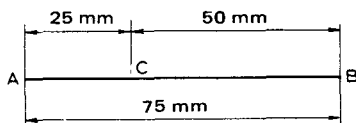

Fig. 1.11
**Ratio.** In Fig. 1.11 a line AB which is 75 mm long has been drawn. The line has been divided at C, so that AC is 25 mm long. We can say at once that AC is  $\frac{1}{2}$  of BC. We can put this in another way, by stating that the line AB has been divided into two parts in the ratio of 1 is to 2. This is commonly written as 1:2, the two dots, one under the other, replacing the words 'is to'. The two ways of expressing this,  $\frac{1}{2}$  and 1:2 mean exactly the same. We know, from our work with fractions, that  $\frac{1}{2}$  means  $1 \div 2$ . Therefore the sign : means division.
You will notice from Fig. 1.11 that AC =  $\frac{1}{3}$  of AB, whilst BC =  $\frac{2}{3}$  of AB. That is, if we divide AB into 3 equal parts then AC is equal to 1 of those parts and BC is equal to 2 of the parts. You will remember that AB was divided into 2 parts in the ratio of 1:2. It is clear therefore that the ratio 1:2 means that the line has been divided into  $1+2 = 3$  parts, and that one part is  $\frac{1}{3}$  and the other  $\frac{2}{3}$ . The following examples show the method you should use.